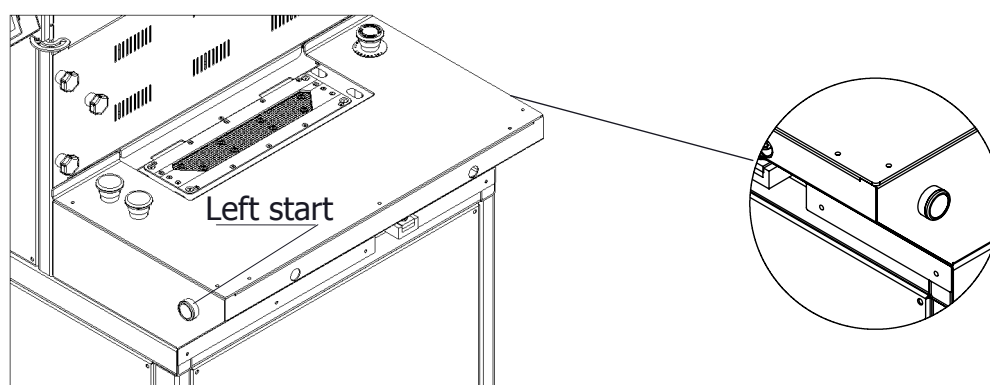

Figure.19
d) While urgent stop button is pressed, wait to return mould's place holding down right and left buttons at once. (Figure.19)